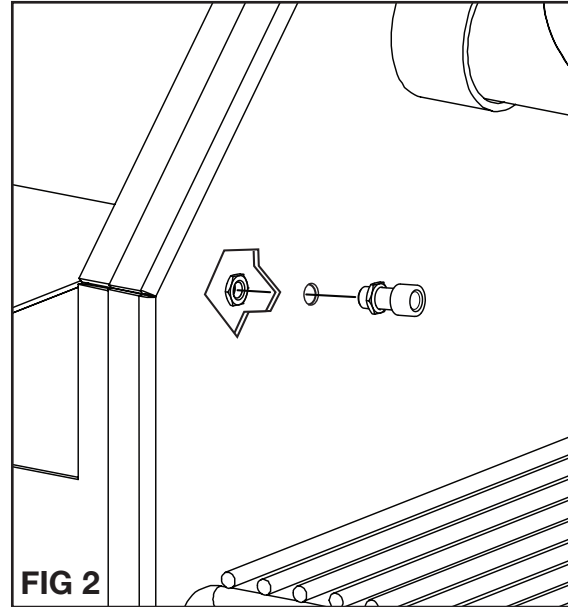

FIG 2
3. Insert probe port in hole. Secure the probe port with stainless steel hex nut using a 18mm wrench or crescent wrench. See **FIG 2**.